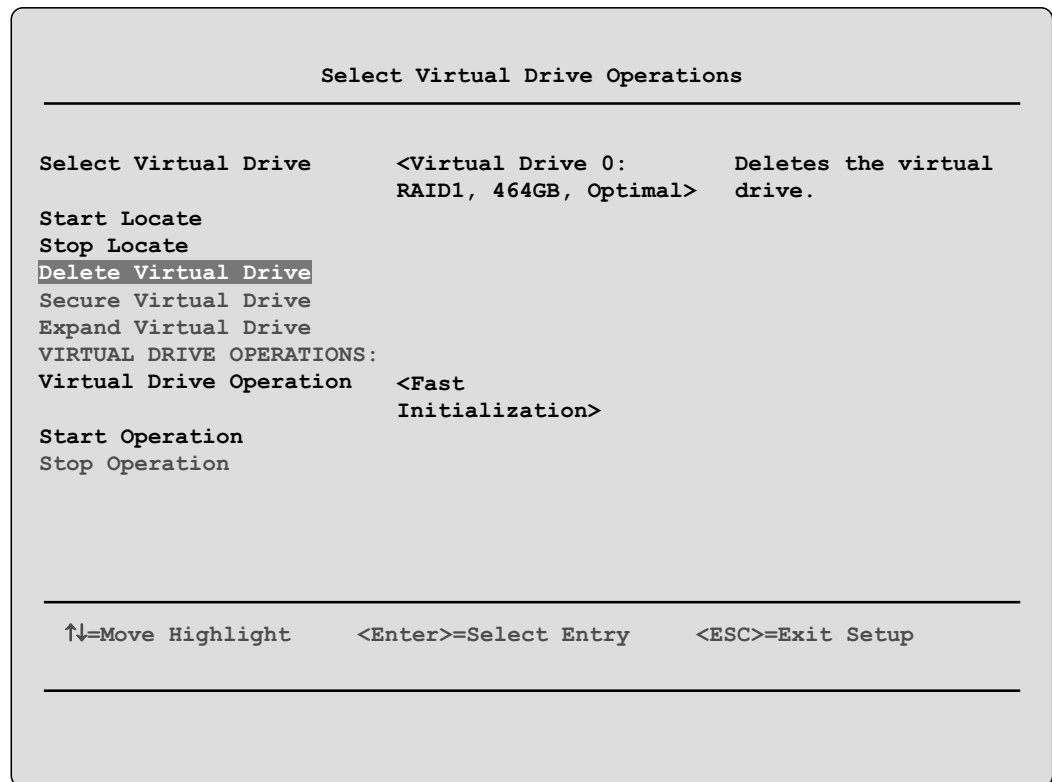

Figure 1 Select Virtual Drive Operations pane: Deleting a virtual drive
8. Select **Delete Virtual Drive** as shown in Figure 1.